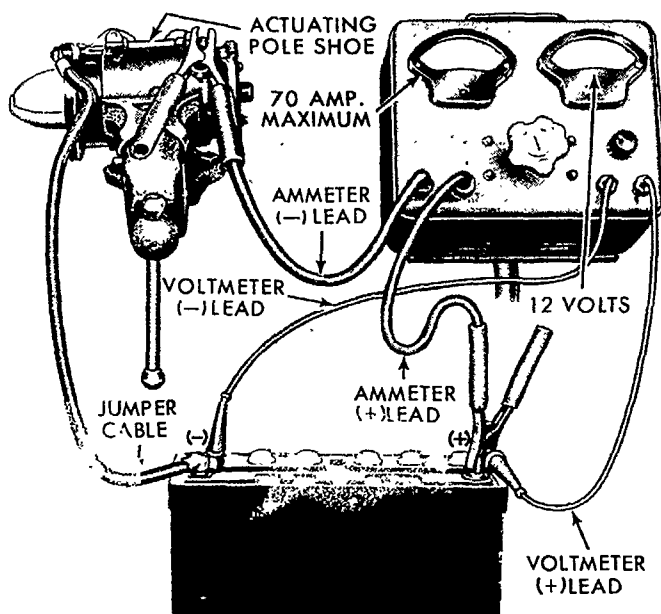

Figure 52
1. **4½-Inch Starting Motor:** Perform the no-load test with reference to Figure 52.